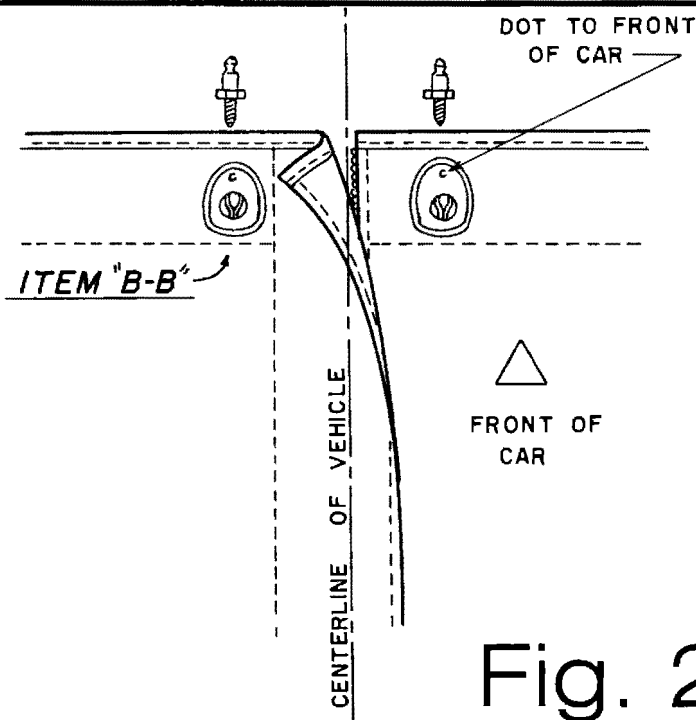

Fig. 2
4. With zipper fully closed, place the forward edge of cover assembly in position so that it butts against the windshield glass at the garnish molding, and lays over the 2 center studs that were previously chalked. Care must be taken to locate centerline of the zipper adjacent to centerline of windshield lower garnish molding. Press firmly on top of chalked studs to mark their location on cover assembly. (See Fig. 2)
5. Punch holes in cover assembly at chalk mark and install sockets (item "B—B") as indicated in Fig. 2.
See Fig. 2